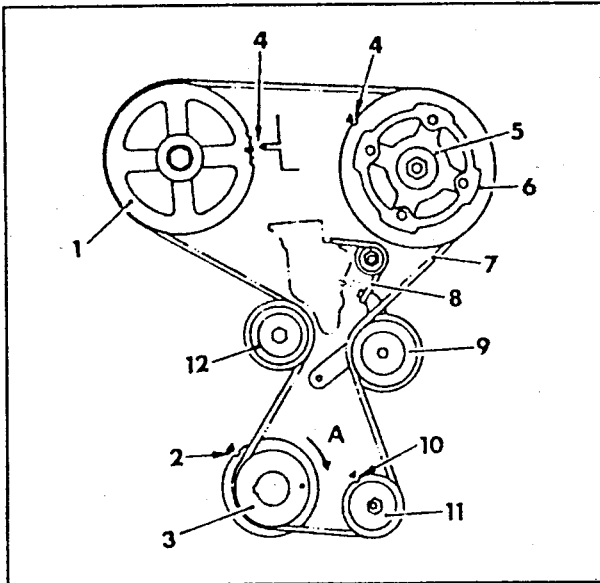

Fig. 15.22. — View of the camshaft and injection pump drive.
The camshaft and timing drive of the diesel engine are shown in Fig. 15.22. The cam-
- Rotate the engine until the piston of No. 1 cylinder is at top dead centre in the firing stroke. Refer to Fig. 15.22 and align all timing marks in accordance.